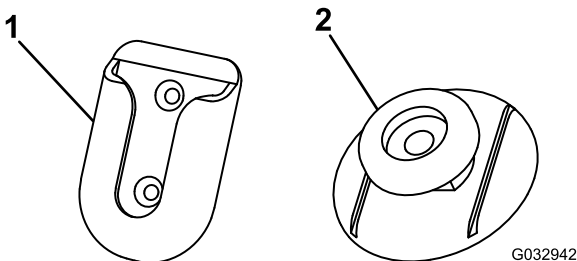

Figure 24
3. Clean the back of the swivel mount (Figure 24) with the alcohol wipe and then dry it.
7. Remove the backing from 1 side of the adhesive and apply it to the back of the mounting tab (Figure 24).